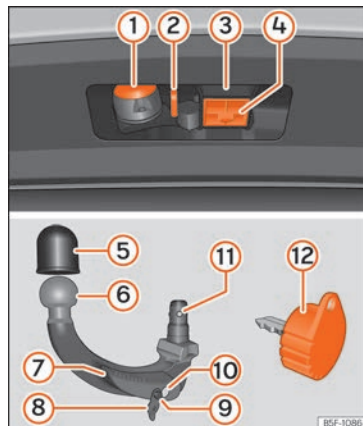

Fig. 176 The towing device supports trailers / tow hook / key
- The top part of the hook housing is greased »» Fig. 176 ③. When using the device, make sure that it has not been removed.
- Remove the hook housing cap »» Fig. 176 ④ downwards.
- Fit cover (4) » Fig. 176 onto its housing.